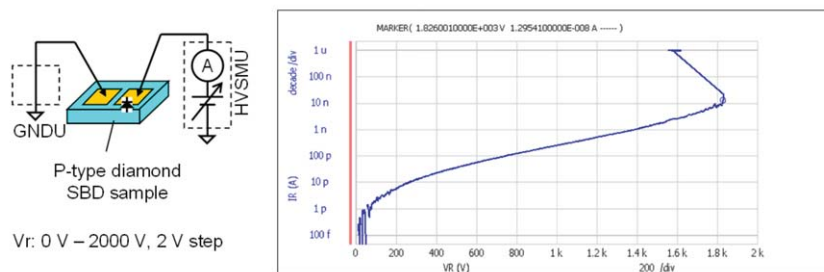

Figure 22. Breakdown and leakage current characteristics of a diamond Schottky barrier diode
A diamond Schottky barrier diode (SBD) consists of four parts: a diamond substrate, a p-type epitaxial layer, an electrode for the metal-semiconductor (MS) Schottky contact, and an electrode for the Ohmic contact. Figure 22 shows an SBD measurement where the two test sample electrodes are connected to the HVSMU and GNDU. A reverse bias voltage is applied to the diode and swept from zero to 2000 V. The leakage current is measured using the HVSMU and plotted on a semi-log scale. Breakdown occurs at 1,826 V with a leakage current of 10 nA. The plot also shows that the leakage current is 252 pA at 1,000 V, which is two orders of magnitude lower than that of an equivalent Si diode.